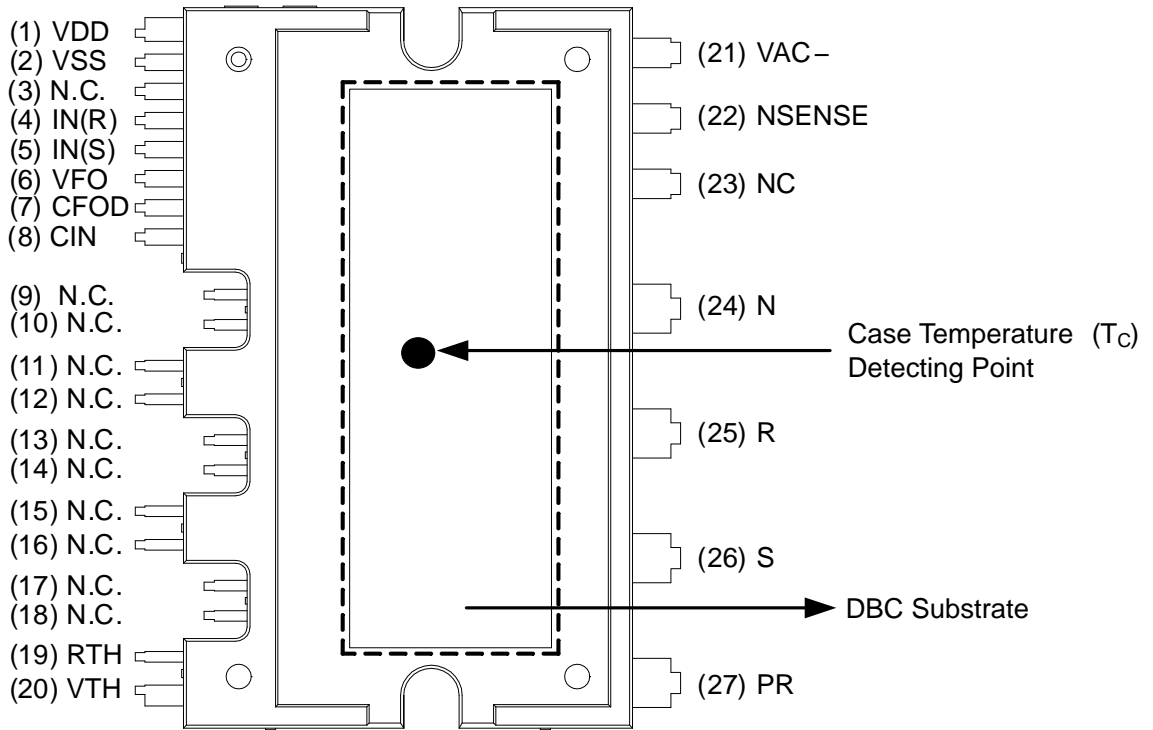

Figure 1. Pin Configuration – Top View
2. For the measurement point of case temperature (T_c), please refer to Figure 1. DBC discoloration and Picker Circle Printing allowed, please refer to application note AN-9190 (Impact of DBC Oxidation on SPM[®] Module Performance).